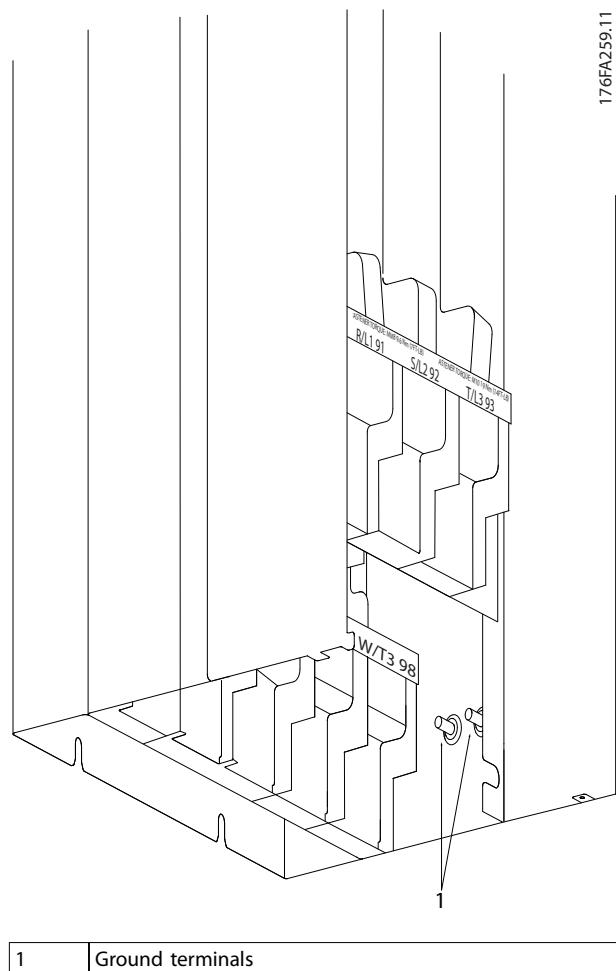

**Figure 4.4 Compact IP00 (Chassis) with Disconnect, Fuse and
**Table 4.2 Legend to Figure 4.3 and Figure 4.4**